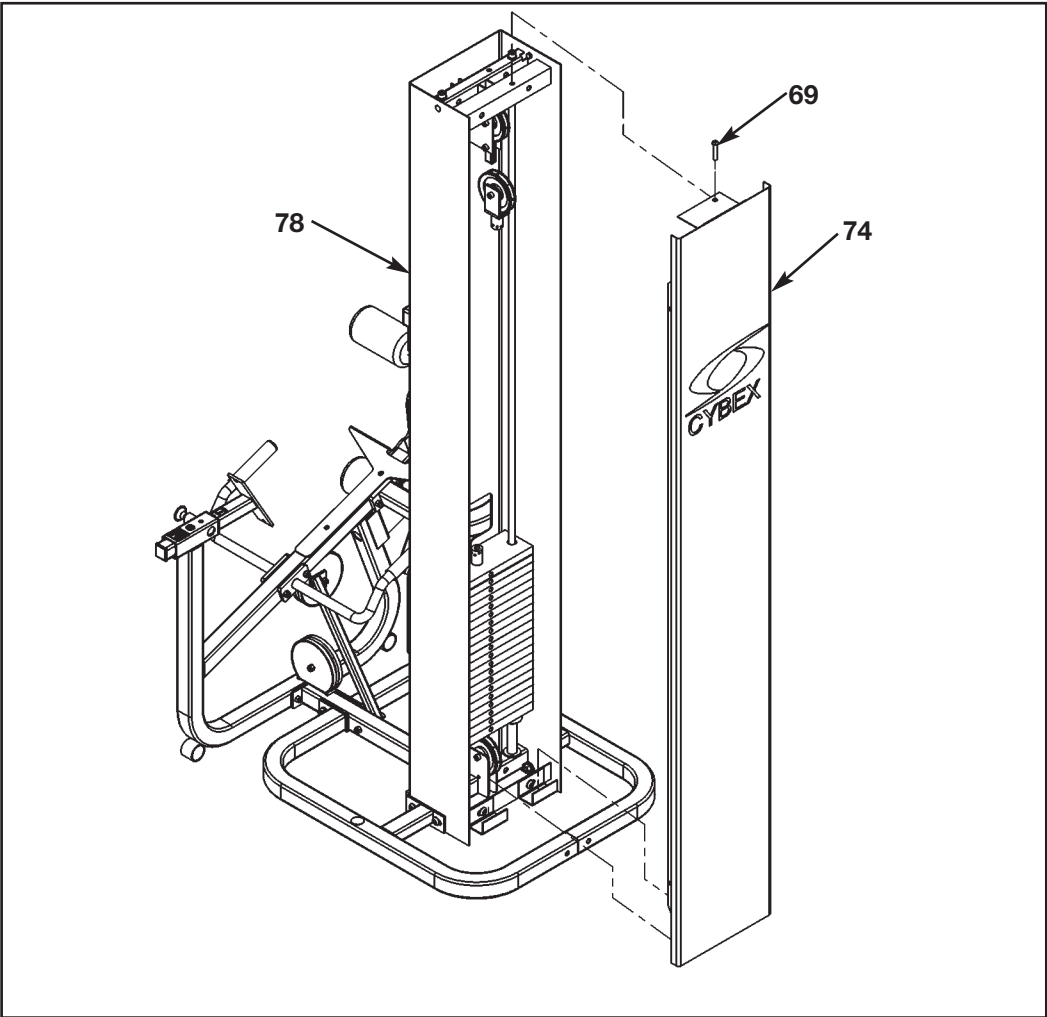

Figure 17
K. For Free Standing units, place back cover (#74) to column (#78) into position (bottom first) and secure using the BHSCS .375-16 x 2.00 (#69) that was removed from step 3C. See Figure 17.